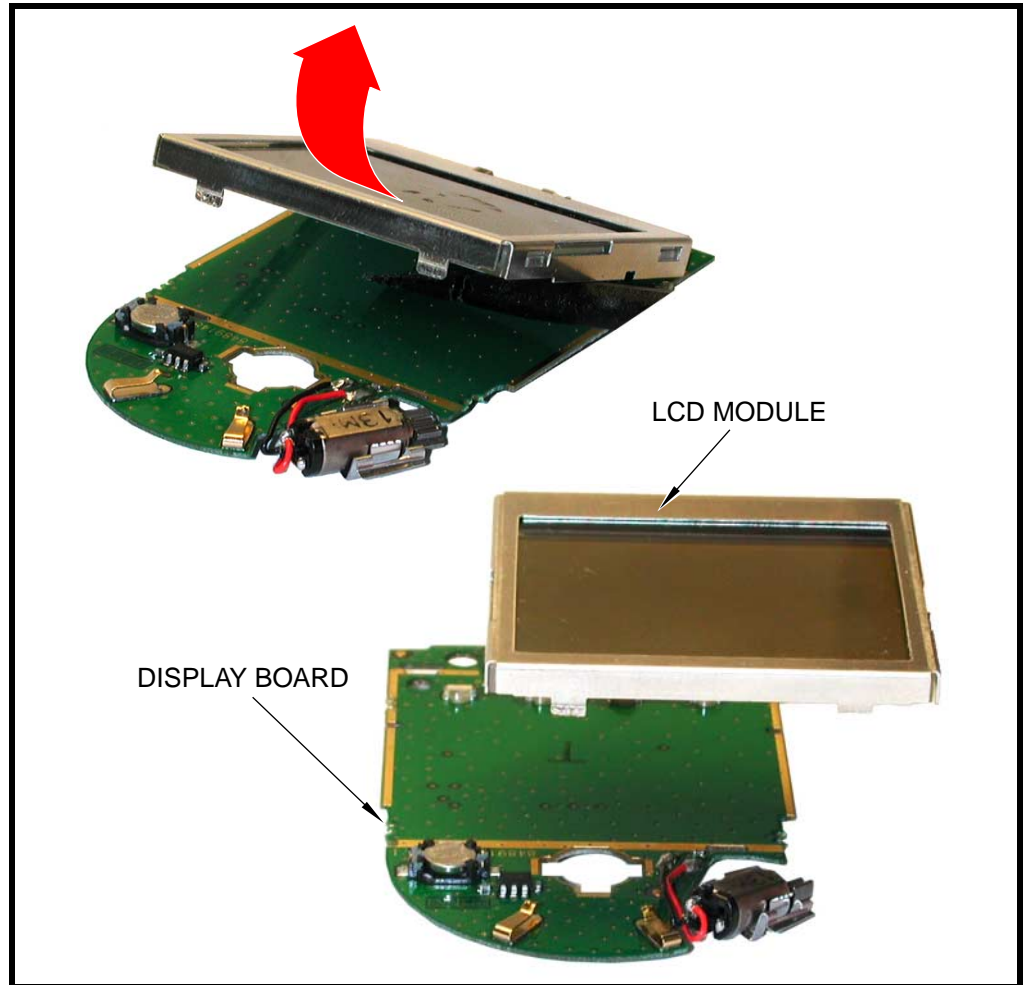

Figure 24. Removing the LCD module
4. Tilt up and remove the LCD module from the display board assembly as shown in Figure 24.